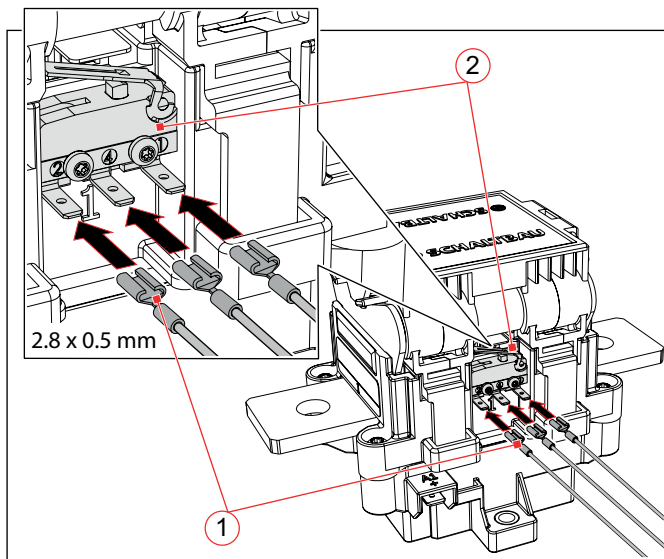

Fig. 16: Connecting the S880 auxiliary switch (the figure shows C310A, the procedure is identical for C310K and C310S)
- ▶ Move and route the control wires and receptacles only in the direction of plugging, see **Fig. 16**.
- ▶ Plug the pre-assembled control wires with the receptacles (1) to the connections (2) of the auxiliary switch.